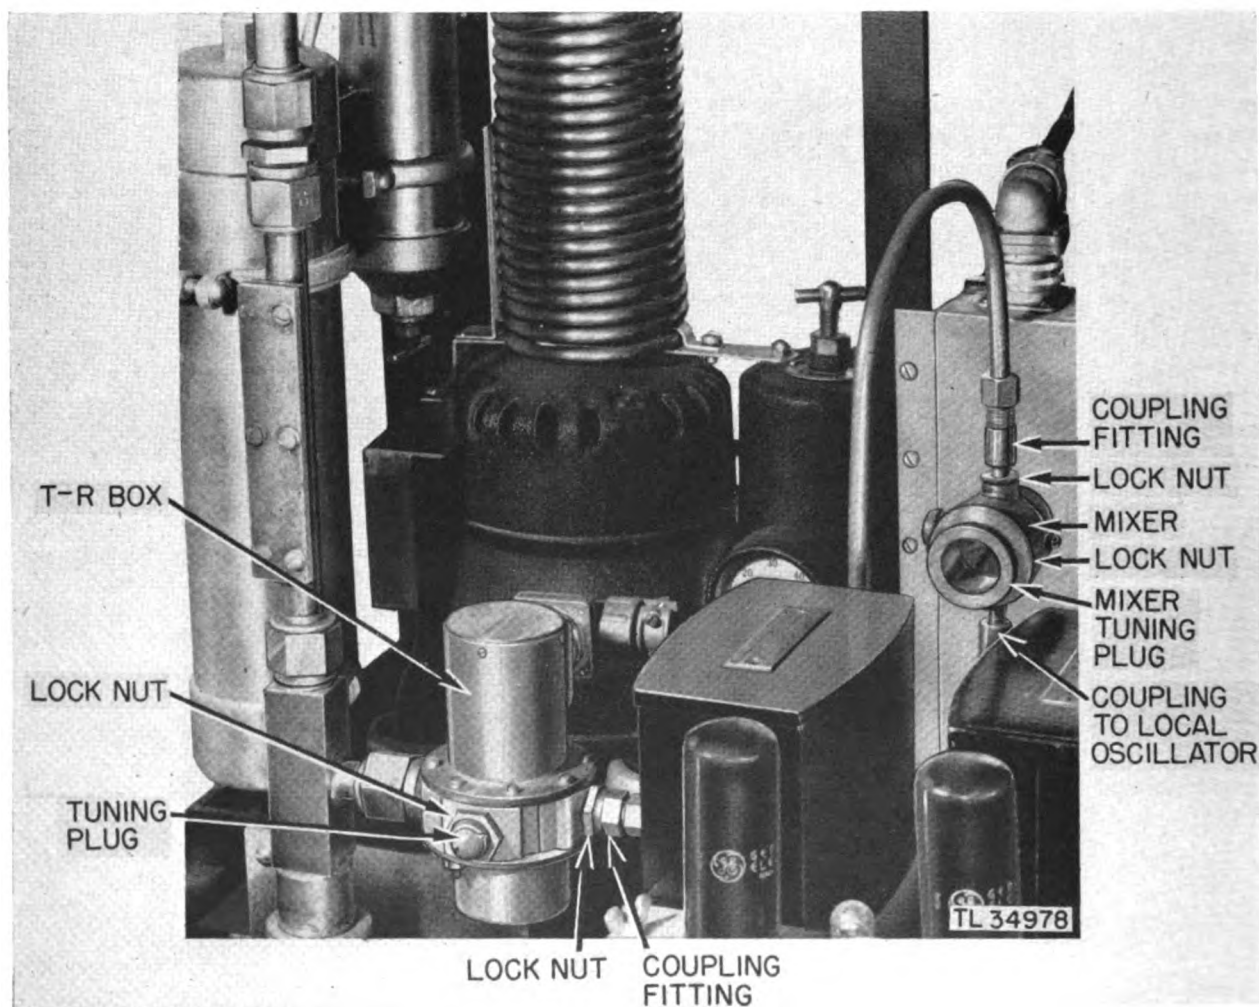

Figure 29. Tuning T-R box and mixer.
(fig. 29) and is held in place by a locknut. Loosen the locknut and rotate the fitting counterclockwise to reduce coupling until the DETECTOR current meter reads less than 0.6 milliamperes. Tighten the locknut to keep the fitting from slipping.
proper operation of the set. The reception of weak signals from targets which should return strong echoes will indicate this condition. It will also be necessary to adjust the mixer and T-R box whenever the transmitter oscillator is changed. In performing the adjustments given in the following procedure refer to figure 29.
b. Figure 29 shows a knurled tuning plunger at the front of the mixer. Loosen the locknut which holds it in place. The plunger can now be screwed in or out. Rotate it slightly, first in one direction and then in the other, and observe whether or not this produces a noticeable change in the depth of the signal pip as seen on the A-scope. If there is none, leave the plunger in its
c. The DETECTOR current meter on the control cabinet should read between 0.2 and 0.6 milliamperes. If the current exceeds 0.6 milliamperes, the coupling from the klystron local oscillator to the mixer must be reduced. The coupling is obtained through the fitting extending downward from the mixer. (In figure 29 this coupling fitting and the locknut which hold it in place cannot be seen, but they are similar to the ones which extend upward.) Loosen the locknut and rotate the fitting one way or the other until the correct current reading (0.2 to 0.6 milliamperes) is obtained. Tighten the locknut to keep the fitting from slipping.